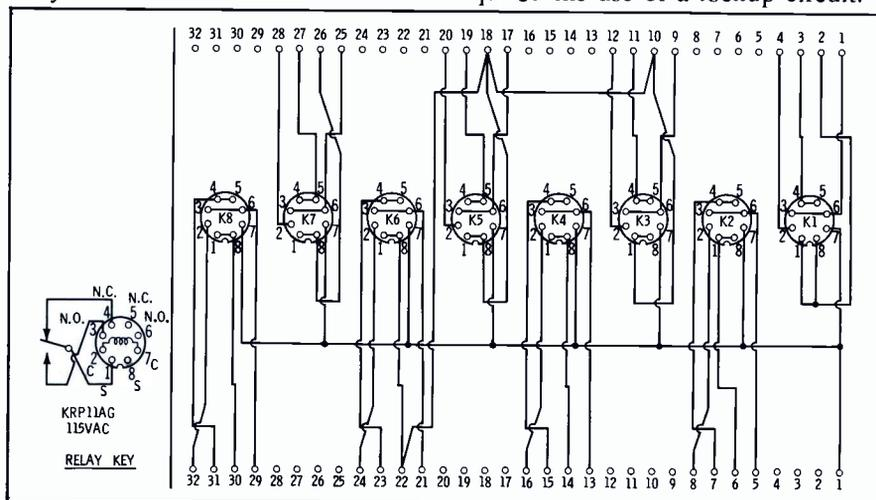

Fig. 16. Wiring diagram for typical basic unit of relay logic control unit.
Octal-base, sealed relays with double-pole, double-throw contacts and 110-volt coils are employed in the relay logic unit. The relays are mounted in four pans, eight relays per pan. This gives a total availability of 32 relays, and Fig. 3 (A) shows that only 28 of these were used, leaving four for future modifications and additions. All pans are wired identically with leads brought out to terminal blocks. The wiring diagram for a typical pan is shown in Fig. 16.